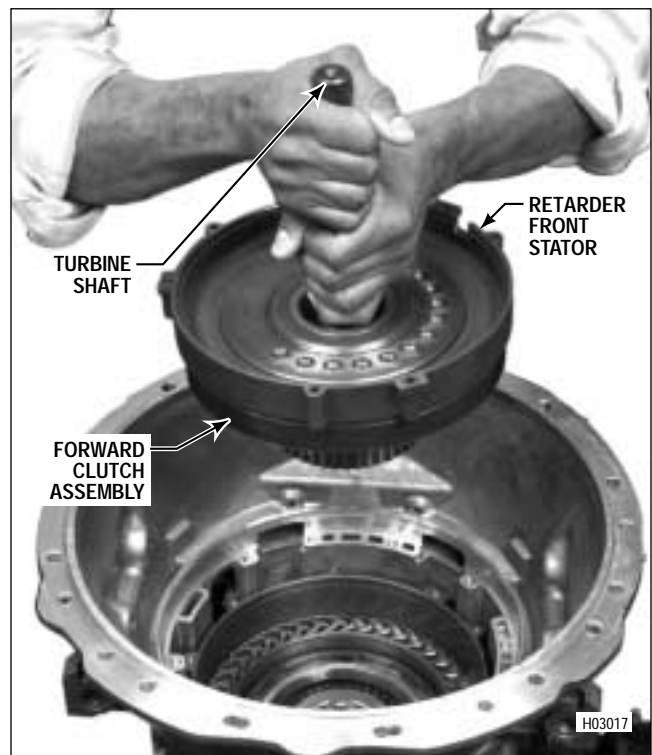

Figure 5-13. Removing Forward Clutch and Turbine Shaft Assembly and Front Stator (Models With Retarder)
(1) Grasp the turbine shaft 14 and lift out the forward clutch and turbine shaft assembly (Figure 5-13).
(2) Lift the front stator from the forward clutch assembly (Figure 5-13).
(3) Remove thrust washer 31 (Foldout 8) from the rear of the forward clutch assembly. Refer to Paragraph 6-8 for rebuild of the forward clutch and turbine shaft assembly.